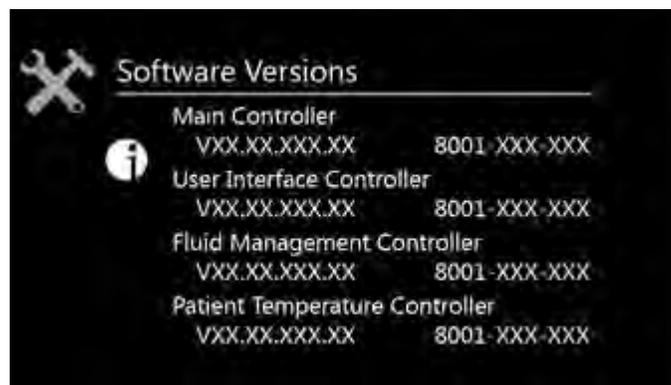

Figure 6 – Software versions, sample screen
2. Displays controller software versions (Figure 6).